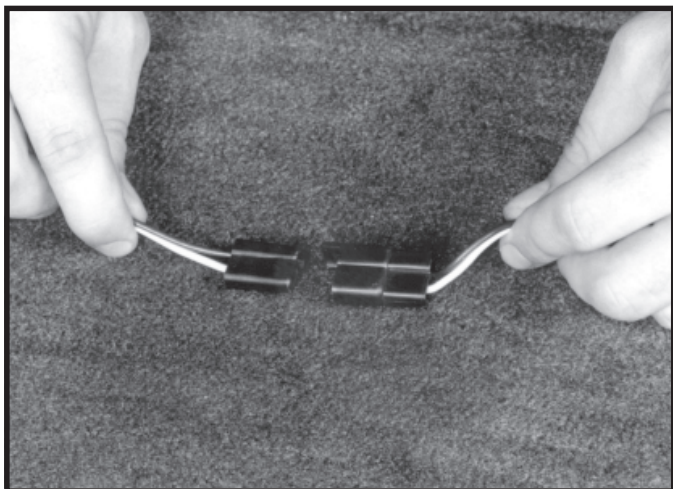

FIG. 23
Step 16: Locate the 2-wire female connector at the other end of the gauge wire assembly and the 2-wire female connector from the gauge sending unit and make connection (Fig. 23). Now turn on the ignition switch, check lamp illumination in gauge. The light should be on. With the ignition switch on, run the Power-Lift up and down. The gauge needle should indicate up and down movement. If these things operate correctly your Power-Lift is ready for operation.